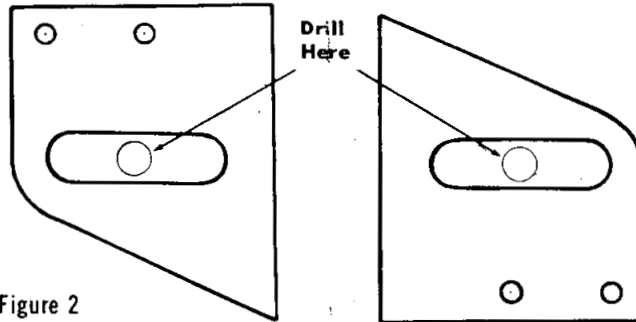

Figure 2
2. Using a Template (Fig. 2) mark and drill two 1/8" holes for mounting the Super Coil. Be sure the drill bit does not cut into any wires or hoses.